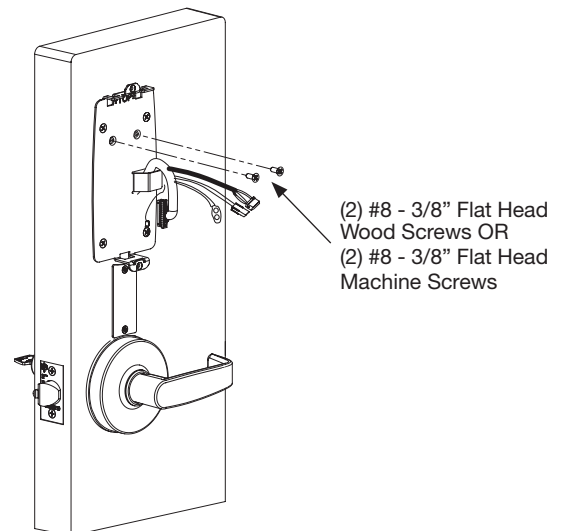

Fig. 12C
Attach two (2) #8 x 3/8" flat head wood screws for wood doors, or (2) #8-32 x 3/8" flat head machine screws for metal doors (Fig. 12C).